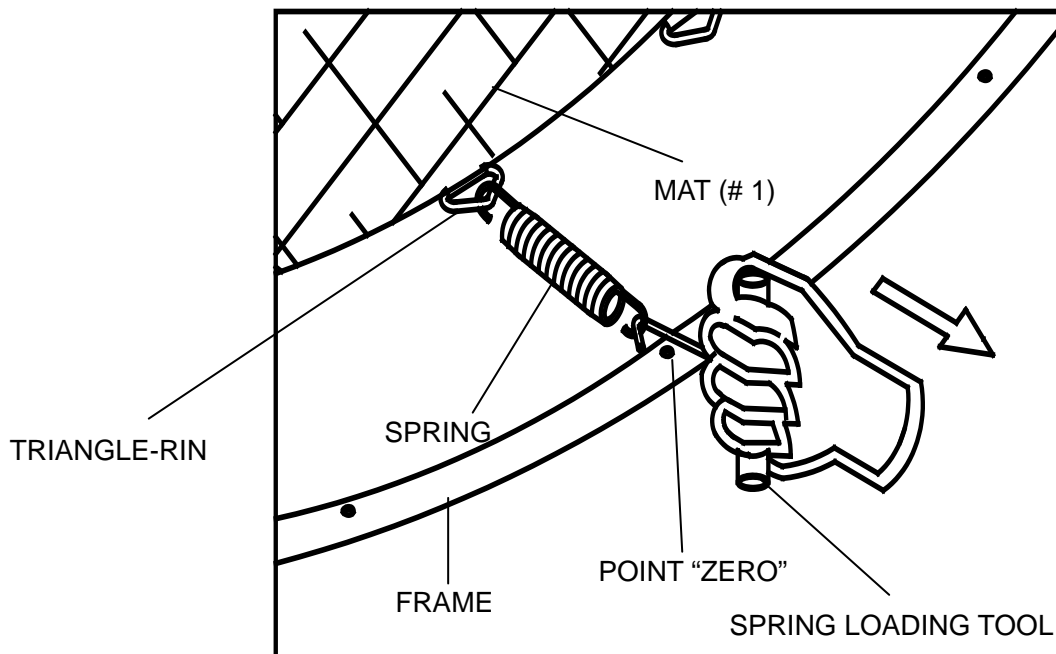

FIGURE 6
5. Hook one end of the Spring (# 13) into the triangle-ring on the Mat (# 1). Holding the Spring Loading Tool underhand, pull the other end of the Spring towards point “ZERO” and drop the hook into the hole on the Frame as shown in Figure 6. Tap on the Spring to make sure it is securely latched into the hole.